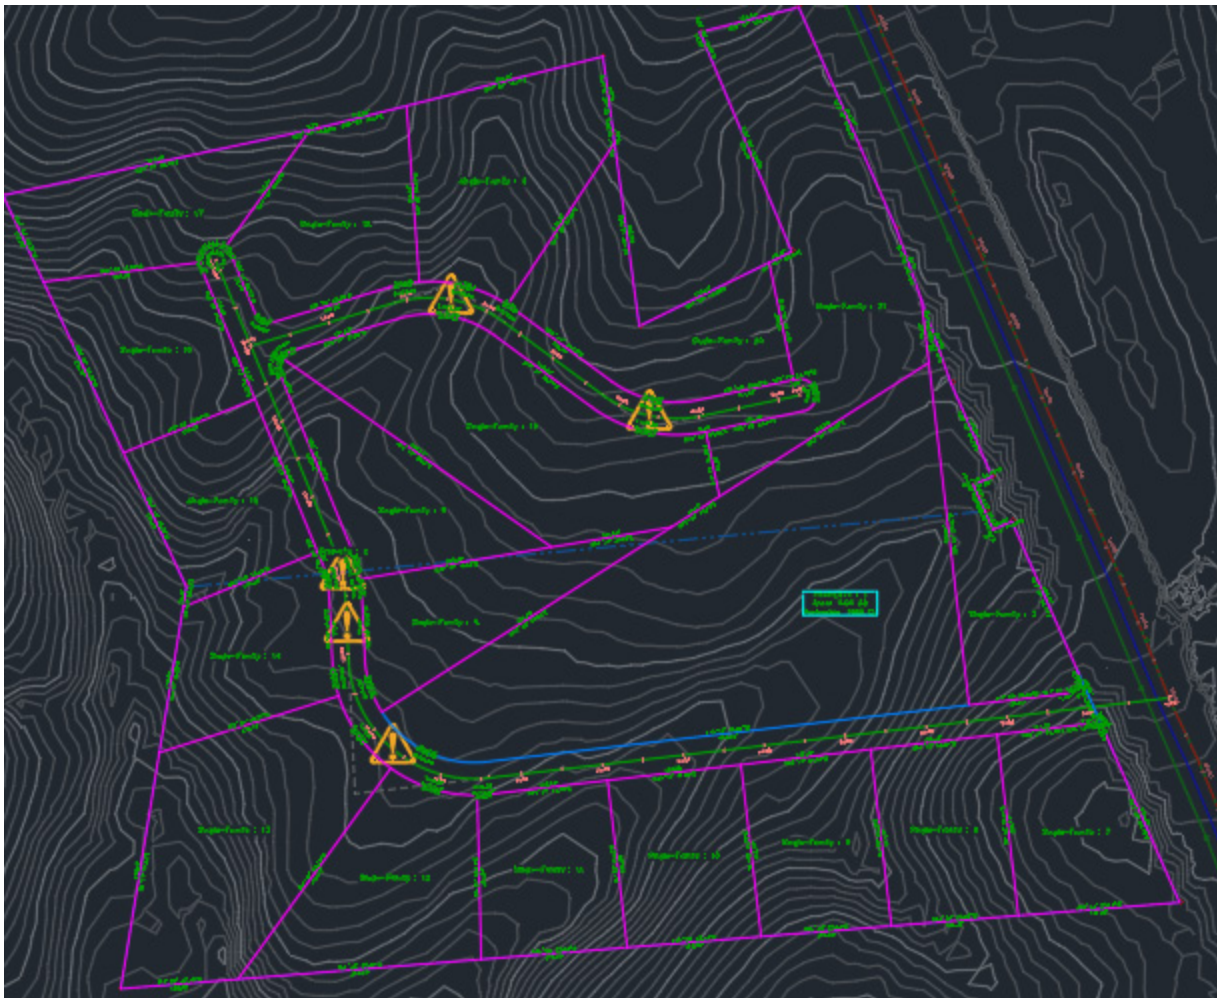

Figure 9.20 – Automatic parcel layout results
6. Finally, we'll then be asked in our command line if we'd like to accept the results, at which point we'll type **YES** and hit the *Enter* key to finish the automatic parcel layout process, with the final result appearing similar to that shown in *Figure 9.20*: